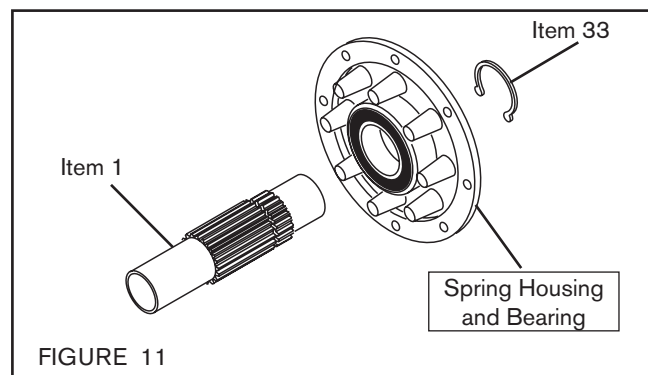

FIGURE 11
5. Remove the Retaining Ring (Item 33) (See Figure 11).
6. Press the Hub (Item 1) out of the Spring Housing (Item 4) and the old Bearing (Item 22) (See Figure 11).
14. Press the Hub (Item 1) into the Spring Housing (Item 4) and the new Ball Bearing (Item 22) (See Figure 11).
15. Reinstall the Retaining Ring (Item 33) (See Figure 11).